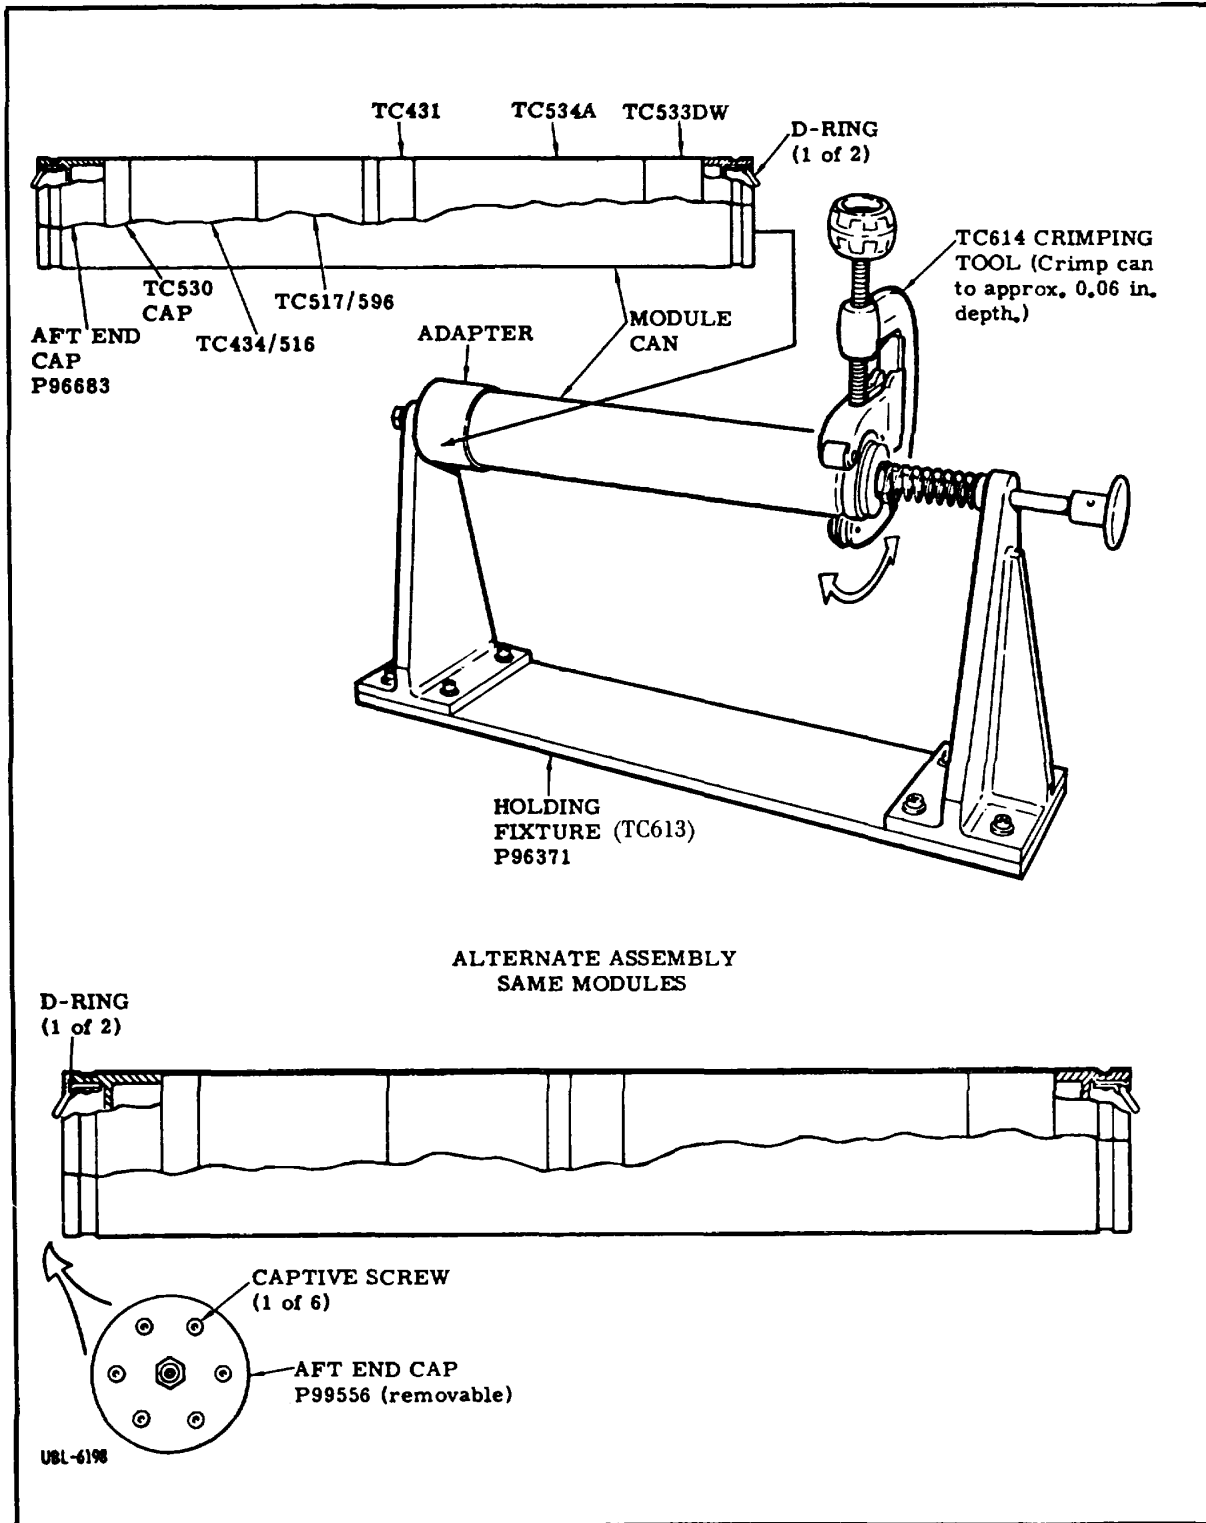

Figure 4-3G. MA87 EXTRA Y Module Can Assembly
2. As necessary, remove aft end cap assembly (figure 4-3G) from module can. Carefully slide assembled stack into can. Do not permit any part of stack to be unsupported during installation.
3. On aft end cap P96683, apply adhesive (EPON 934) to 1-inch band on aft end near D-ring (figure 4-3G). Place end cap on working surface, Drink down.
e. Keeping D-rings aligned, position module can in special holding fixture (P/N P96371, figure 4-3G), aft end cap toward end with spring, and other end in adapter. D-rings on both end caps engage slots in fixture and adapter.
f. Keeping D-rings aligned, position battery can in special holding fixture (P/N P96371, figure 4-3G) so that D-rings on both end caps engage slots in fixture.